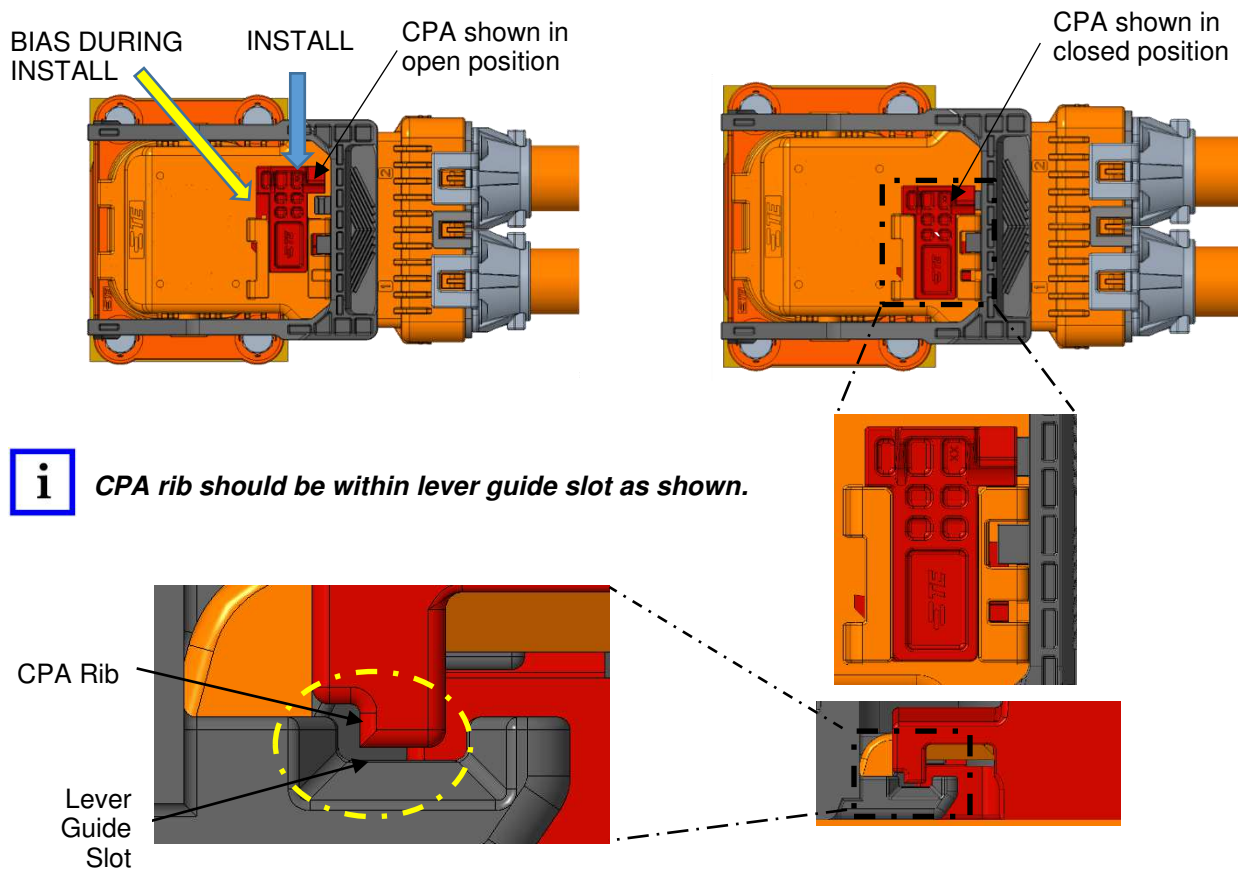

Figure 20: CPA Actuation from Open to Close
4. Bias the red CPA towards the black lever and push the red CPA forward in the direction of the blue arrow until it stops as shown in Figure 20.